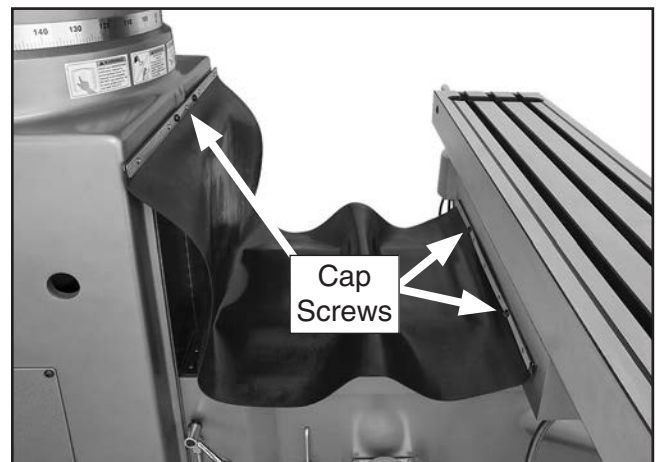

Figure 13. Rear way cover installed.
5. Using the four cap screws pre-threaded into the holes, install the rear way cover as shown in **Figure 13**.